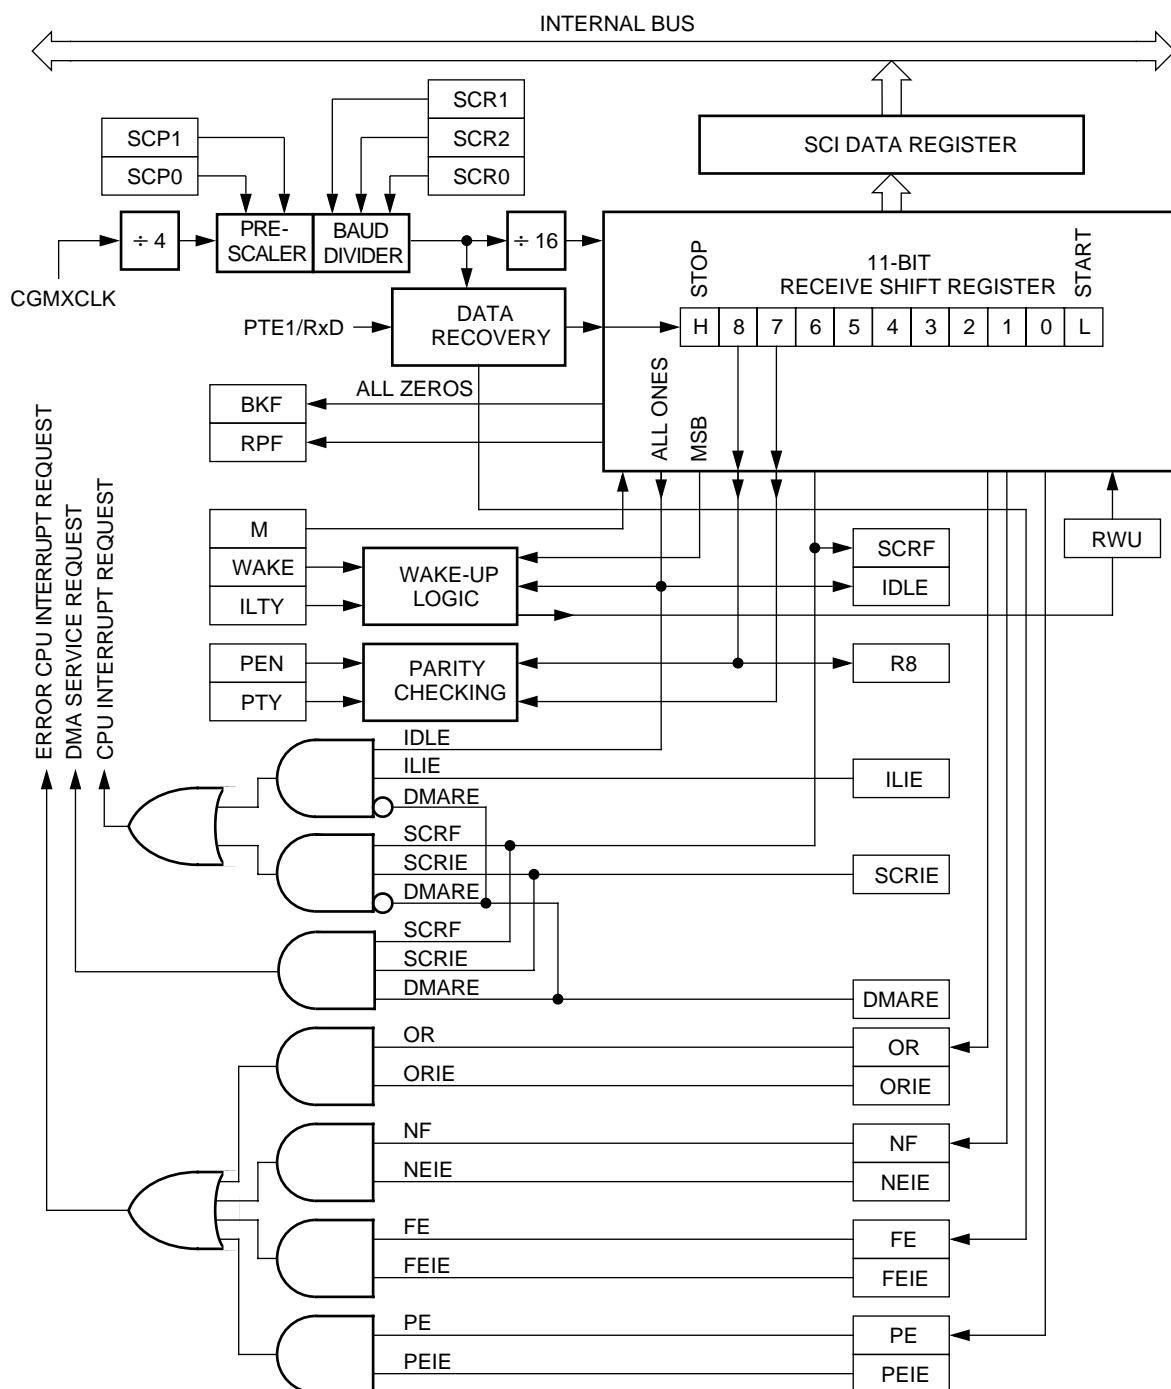

Figure 3. SCI receiver block diagram
**Figure 3** shows the structure of the SCI receiver